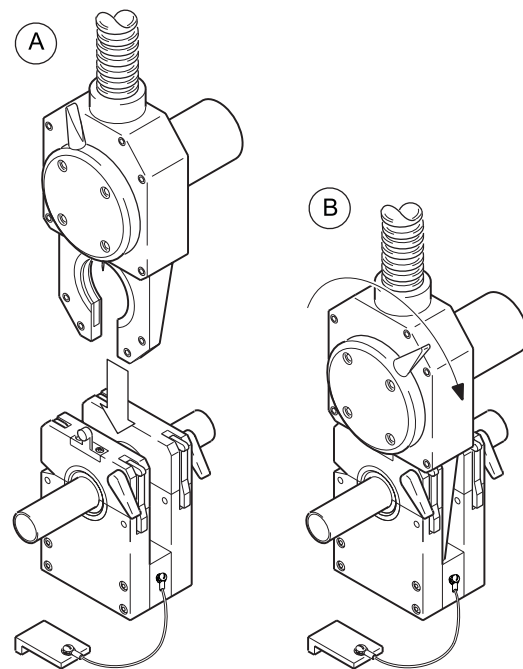

Figure 20 Mating the Weld Head to the Fixture Block
2. Insert the weld head into the fixture block. See Figure 20(A).
3. Rotate the locking lever clockwise to secure the weld head. See Figure 20(B).